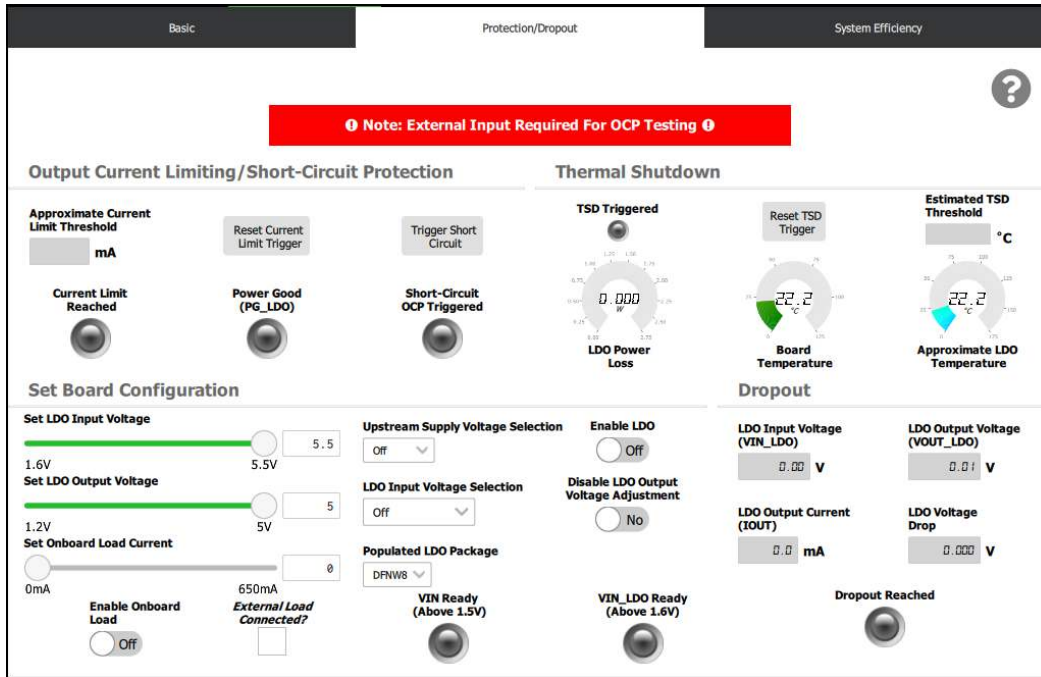

Figure 4: "Protection/Dropout" UI view
- The “Protection/Dropout” view (shown in Figure 4) provides the ability to test the LDO’s current limit protection, TSD protection, and dropout voltage.